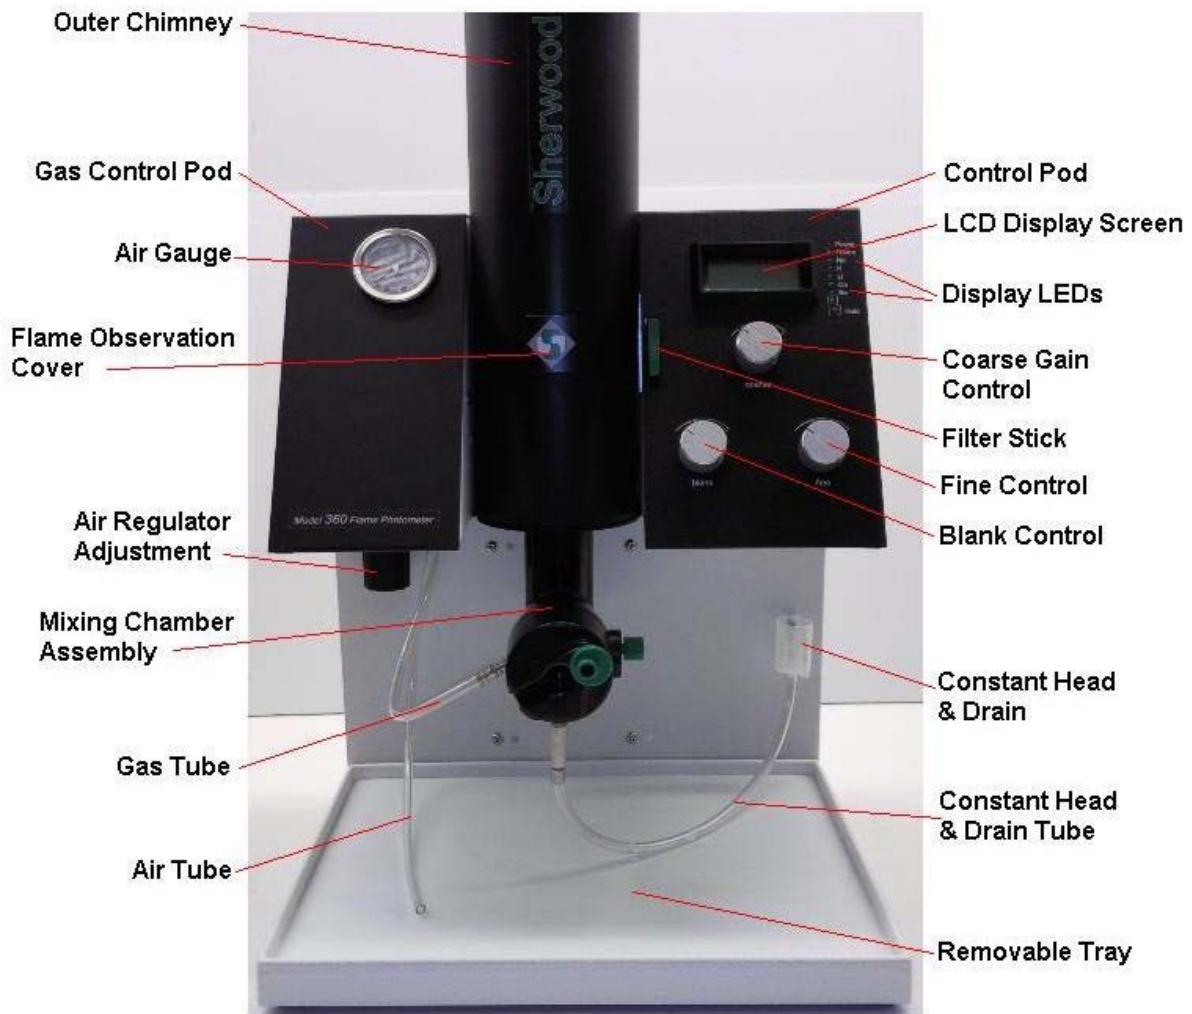

Figure 4.1 Controls
4.1 Controls and Indicators (See Figure 4.1).